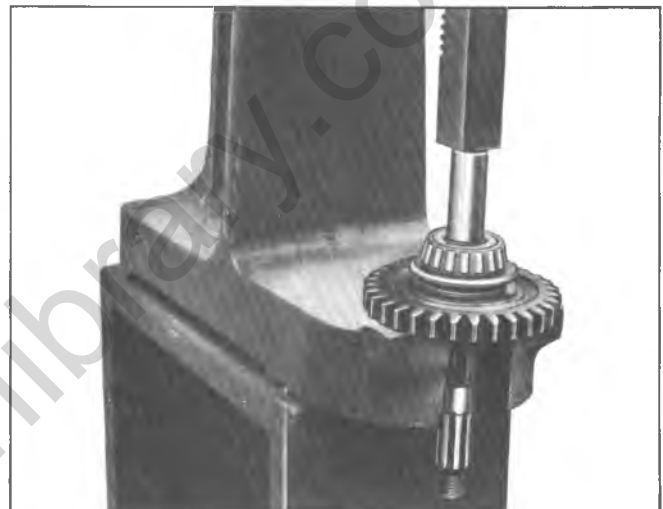

Fig. 5D-Removing Front Output Shaft Rear Bearing
12. Support inner race of rear bearing and press bearing from shaft as shown in Figure 5D.